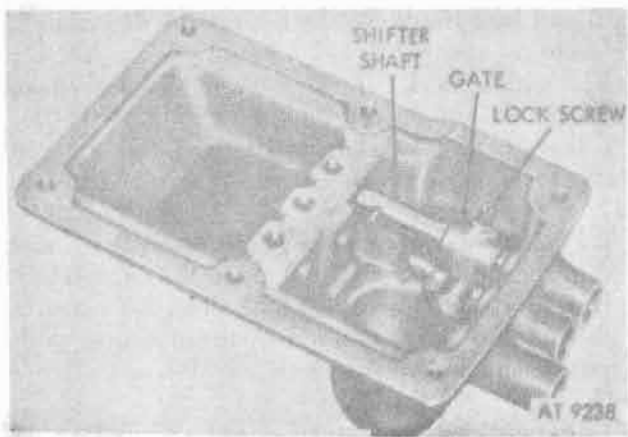

Figure 8-105. Shifter gate lock screw.
- f. Position reverse-shifter gate on shaft over slot as shown and install lock screw (fig. 8-105). Refer to figure 8-103 for position of slot.